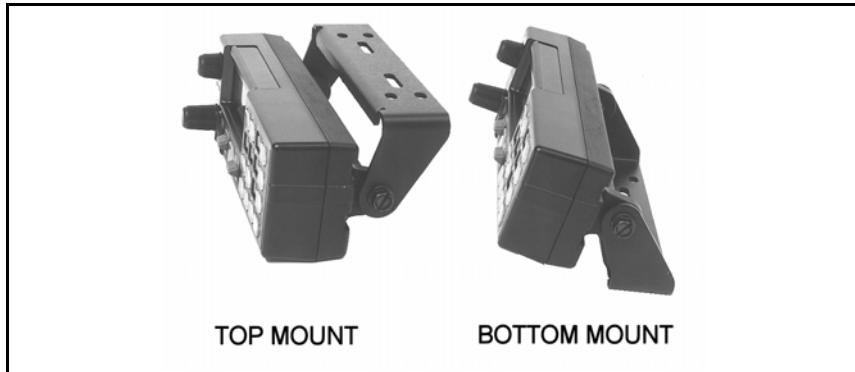
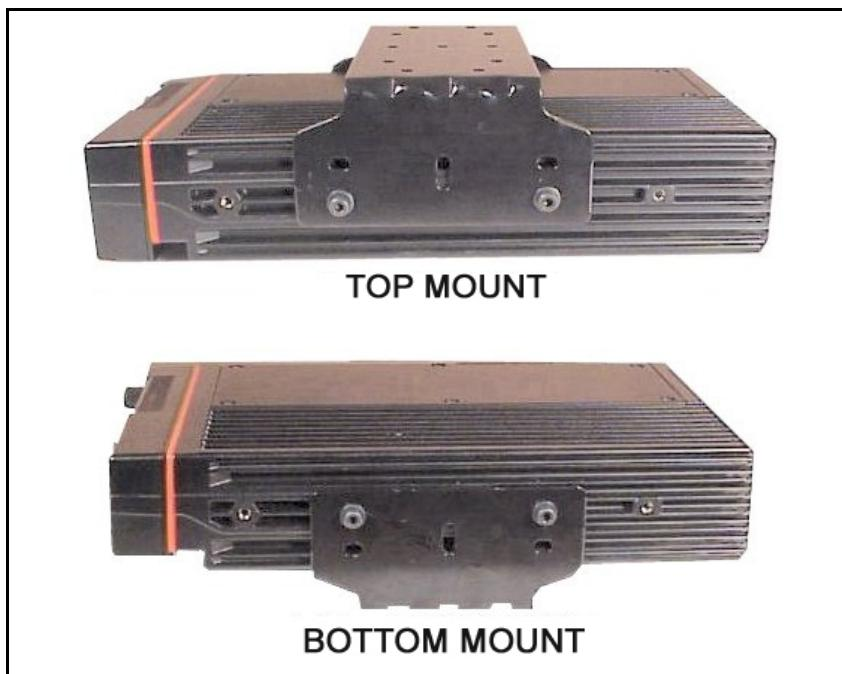

Figure 10-7: Control Unit Mounting Bracket Installation
Figure 10-14: Mounting Bracket Installation (110W VHF Shown)
1. Using the bracket as a template, mark and drill the mounting holes. Be sure to leave enough room at the rear of the control unit for the cable connector and to allow the unit to swivel. Refer to Figure 10-7 for control unit mounting bracket installation.
Typically, the bracket shown in Figure 10-14 is used for Front Mount applications. The bracket can be mounted so that it is either above or below the radio for the user’s convenience. The bracket pictured in Figure 10-7 can also be used for Remote Mount applications. The following instructions are for a Front Mount installation using the bracket shown in Figure 10-14.